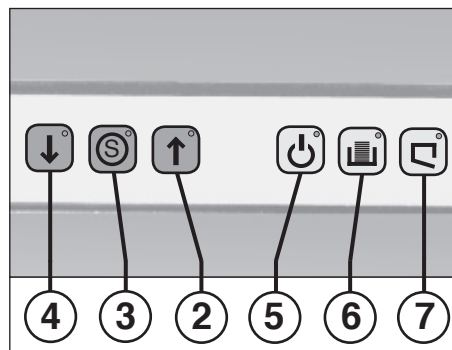

fig. 2
2 = „Cutting system forward“ pushbutton (fig. 2)
3 = „Cutting system stop“ pushbutton (fig. 2)
4 = „Cutting system reverse“ pushbutton (fig. 2)
5 = Pilot lamp „ready“ (fig. 2)
6 = Pilot lamp „receptacle full“ (fig. 2)
The pilot lamp marked „ready for operation“ (5), as well as the red stop-button „S“ (3) (fig. 2) will light to indicate that the machine is ready for operation.
When the receptacle is full, the machine turns off automatically and a horn sounds. The pilot lamp (6) (fig. 2) lights up. Empty the receptacle as follows:
- Open door. The pilot lamp (7) (fig. 2) lights up.
- The horn stops. The pilot lamp (6) goes off.
- Place empty sack into receptacle, push in the receptacle and close door. The pilot lamp (7) goes off.